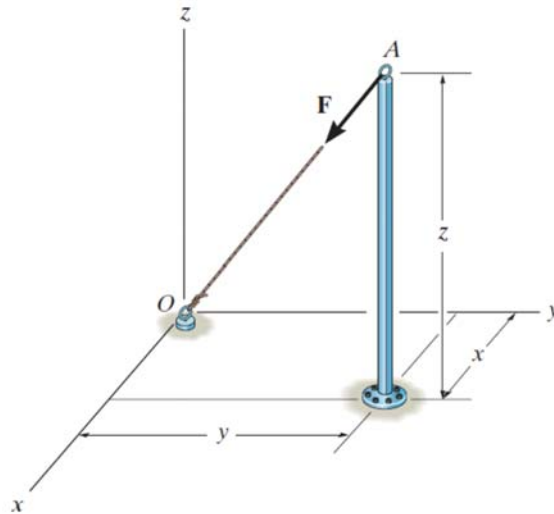

Figure Q1[a]
- Q1 [a]** The cable AO exerts a force on the top of the pole of $F = \{-120i - 90j - 80k\}$ N, as shown in Figure Q1[a]. If the cable has a length of 34 m, determine the height z of the pole and the location (x,y) of its base.